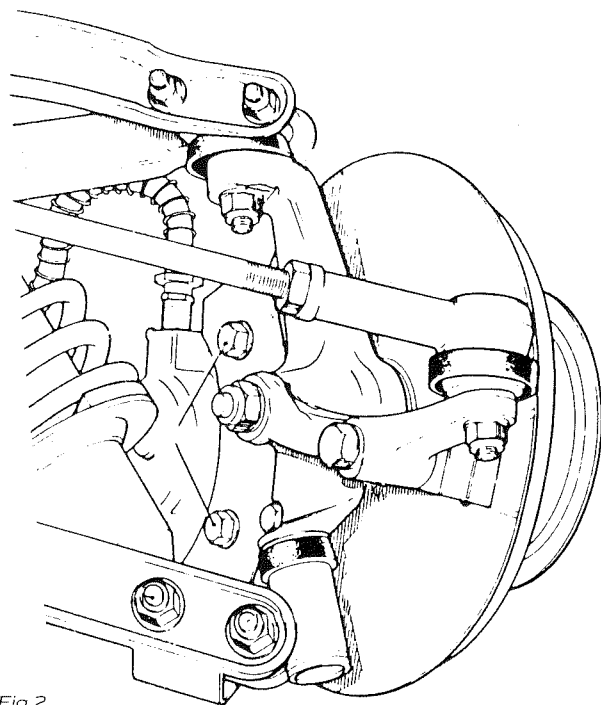

Fig.2.
- Remove the two bolts holding the calliper in place (5/8 AF) Fig. 2. Hang the calliper out of the way using a piece of wire. Don't let the calliper hang on the brake pipe.